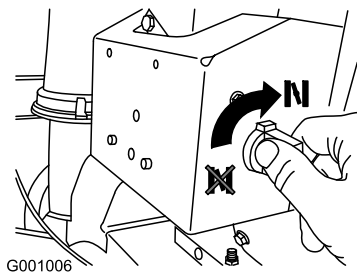

Figure 23
4. Rotate the choke to the On position (Figure 23).